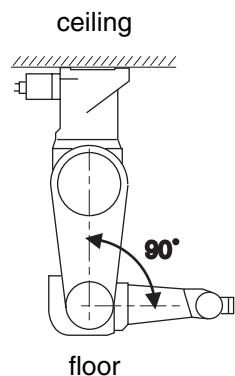

Figure 3.8
- Place the robot in position **(figure 3.8)**.